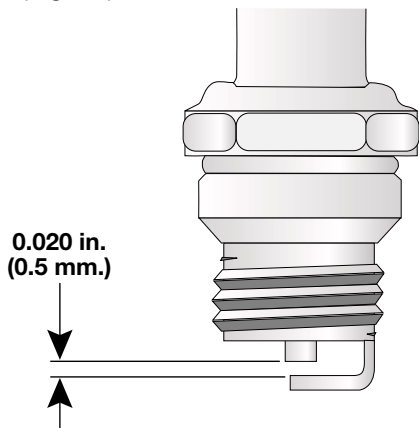

Fig. 34
3. Set the air gap at 0.020 in. (0.5 mm.) using a feeler gauge (Fig. 34).